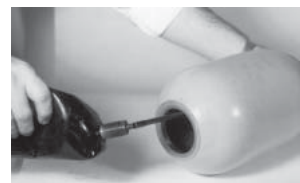

FIGURE 8
4. **Figure 8.** Insert the bladder pull rod through the valve stem opening and through the shell fluid port; attach the bladder pull rod to the bladder valve stem.